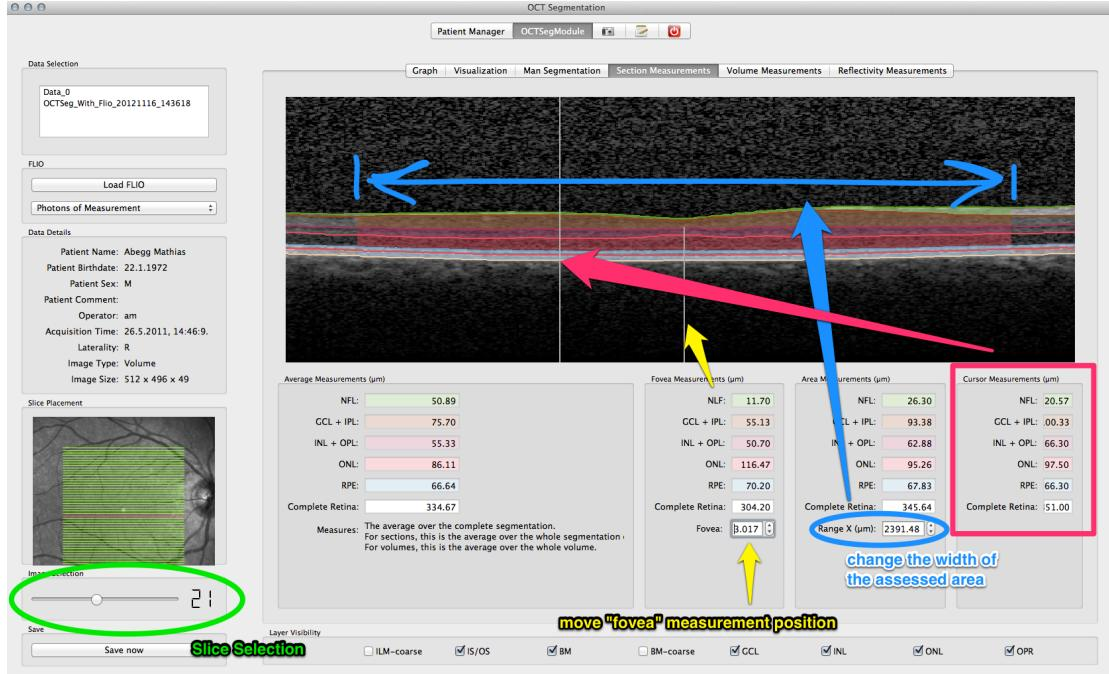

Figure 10: Section Measurement Screen
The section measurement uses an existing segmentation to perform measurements on the currently displayed slice out of the slice stack. If you change the slice (using the slice selection, highlighted in green in Figure 10) the measurements will be updated. The section measurements are grouped in four individual measurement scopes (see the four group boxes located in the lower half of the main screen):
2. **Fovea Measurements:** Punctual distance measurement at the fovea. The position where the current fovea measurement is assessed is indicated with a grey vertical line (see yellow arrow in Figure 10). The horizontal position of the line can be adjusted using the spin-box entitled “Fovea” (yellow arrow in Figure 10).
3. **Area Measurements:** Area measurement is an average distance measurement covering only the area with the semi transparent colored overlay. The width of the area can be controlled with blue highlighted spin-box entitled “Range X” (see Figure 10). The area is always centered around the fovea measurement line shown in gray. This means you can move the measured area horizontally by changing the Fovea position (see previous point). If you move the area or change the width the values are updated automatically.